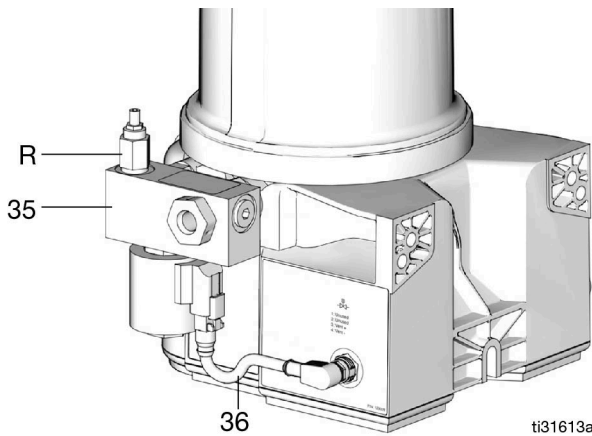

FIG. 24
Connect one end of the vent valve cable (36) (Graco Part No. 129801) to the vent valve connector on the pump. Connect the other end of the cable to the vent valve (35) (Fig. 24).
Pressure Relief Valve (R) (FIG. 24)